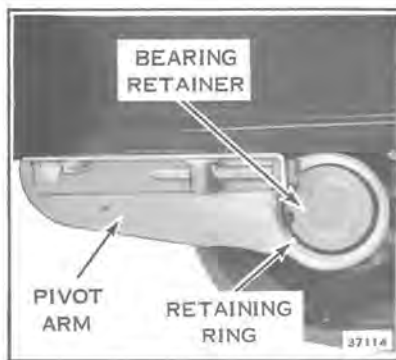

Figure 11-11
1. Remove retaining ring and bearing retainer. See Figure 11-11.
2. Push pivot arm towards sprocket. See Figure 11-11.
Assemble wheels and spacers to their original position on the front and rear truck axles. Application of a light oil on the axles will assist in this procedure. Apply OMC Part No. 114154 grease in bore of bushings and assemble to pivot axles. Assemble pivot arms and springs. See Figures 11-11 and 11-12.
Assemble sprocket, bearings, bearing retainer, retaining ring, pivot arms and brackets to rear axle. Use a clean light oil to assist in this assembly. Apply OMC Part No. 114154 grease to pivot arm bushings before assembly. See Figure 11-11.